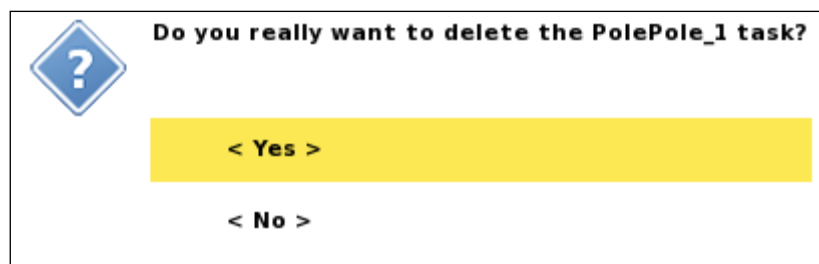

Figure 23 Confirm Task Delete dialog
- **Delete:** A confirmation dialog is shown and the Task will be deleted if the user confirms the deletion (Figure 23)